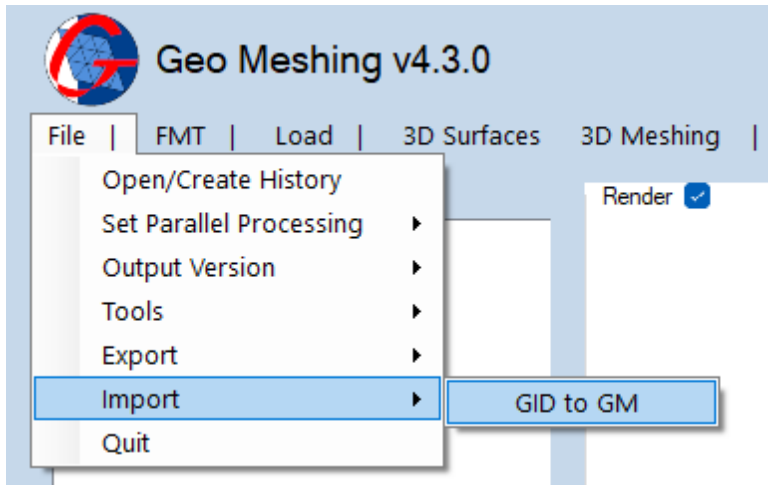

Figure 20: File Menu – Export.
- **File Menu, Import:** This option (shown in Figure 20) has a submenu with *GID to GM* option.